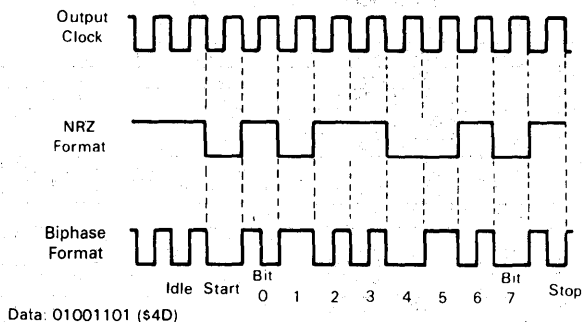

Figure 23. SCI Data Formats
The start bit (0), eight data bits (beginning with bit 0), and a stop bit (1) will be transmitted. If TDRE is still set when the next byte transfer occurs, ones will be sent until more data is provided. In biphase format, the output toggles at the start of each bit and at half-bit time when a one is sent. Receive operation is controlled by RE, which configures P23 as an input and enables the receiver. SCI data formats are illustrated in Figure 23.